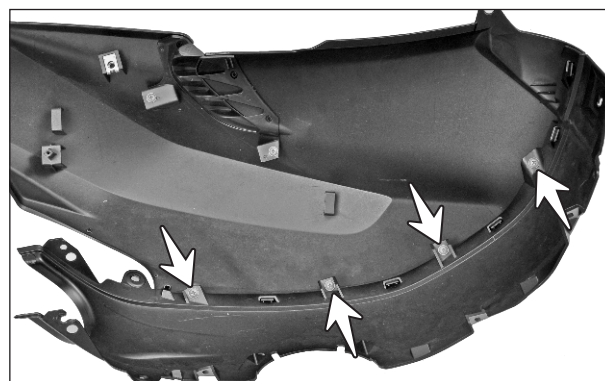

Fig. 2.19
- Remove the CRR flanged pan head tap screw (ST4.2x13 - 4 nos.) from the mounting of cover fuel tank outer L. (Fig. 2.19)